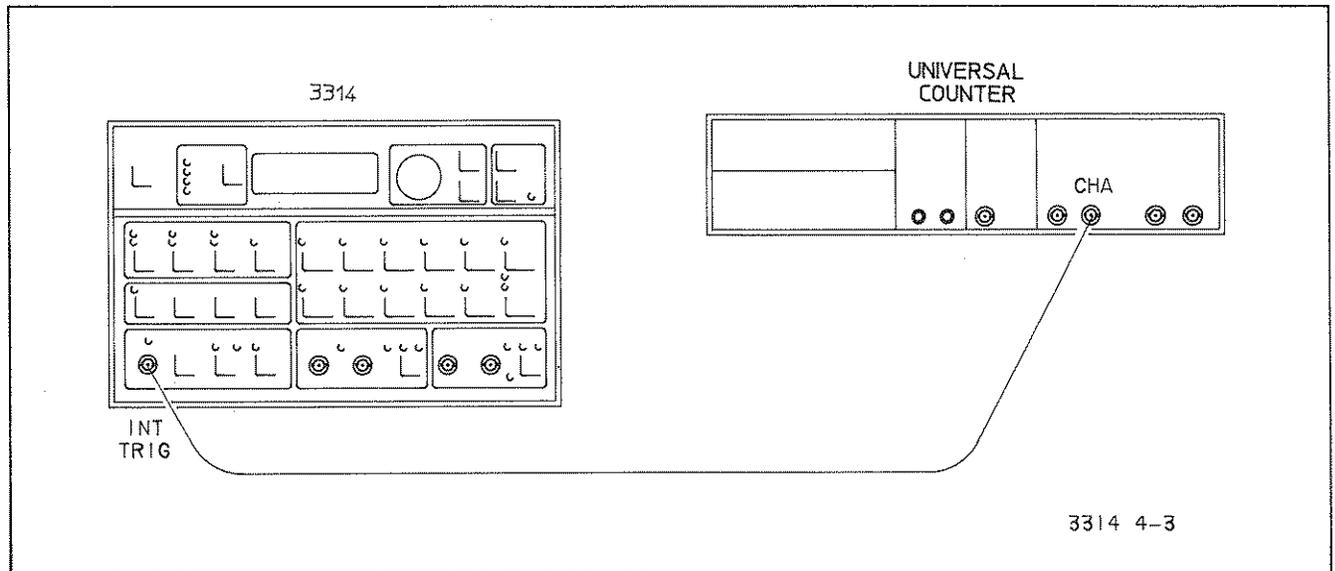

Figure 4-3. Internal Trigger Accuracy
- C. Connect the 3314A to the Counter as shown in Figure 4-3.